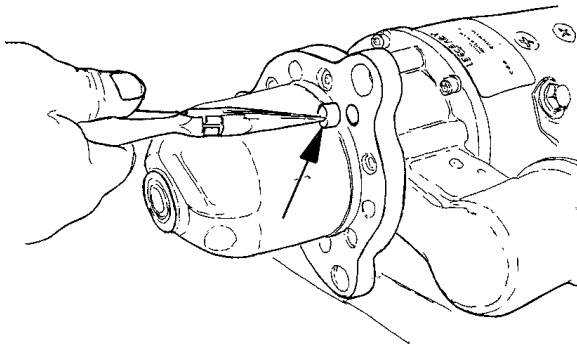

Figure 6 Installing Rubber Seals (Arrow)
10. Remove the rubber seals from the old nose cone and install into the unused bolt holes in the new nose cone (Figure 6).